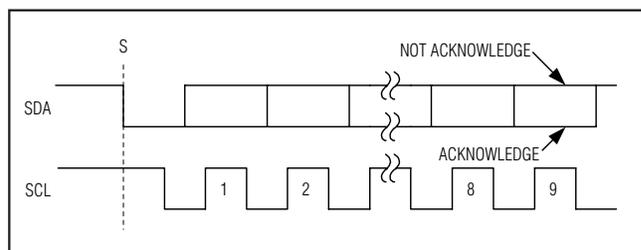

Figure 6. Acknowledge Bits
Data transfers are acknowledged with an acknowledge bit (A) or a not-acknowledge bit (A̅). Both the master and the MAX1136–MAX1139 (slave) generate acknowledge bits. To generate an acknowledge, the receiving device must pull SDA low before the rising edge of the acknowledge-related clock pulse (ninth pulse) and keep it low during the high period of the clock pulse (Figure 6). To generate a not-acknowledge, the receiver allows SDA to be pulled high before the rising edge of the acknowledge-related clock pulse and leaves SDA high during the high period of the clock pulse. Monitoring the acknowledge bits allows for detection of unsuccessful data transfers. An unsuccessful data transfer happens if a receiving device is busy or if a system fault has occurred. In the event of an unsuccessful data transfer the bus master should reattempt communication at a later time.